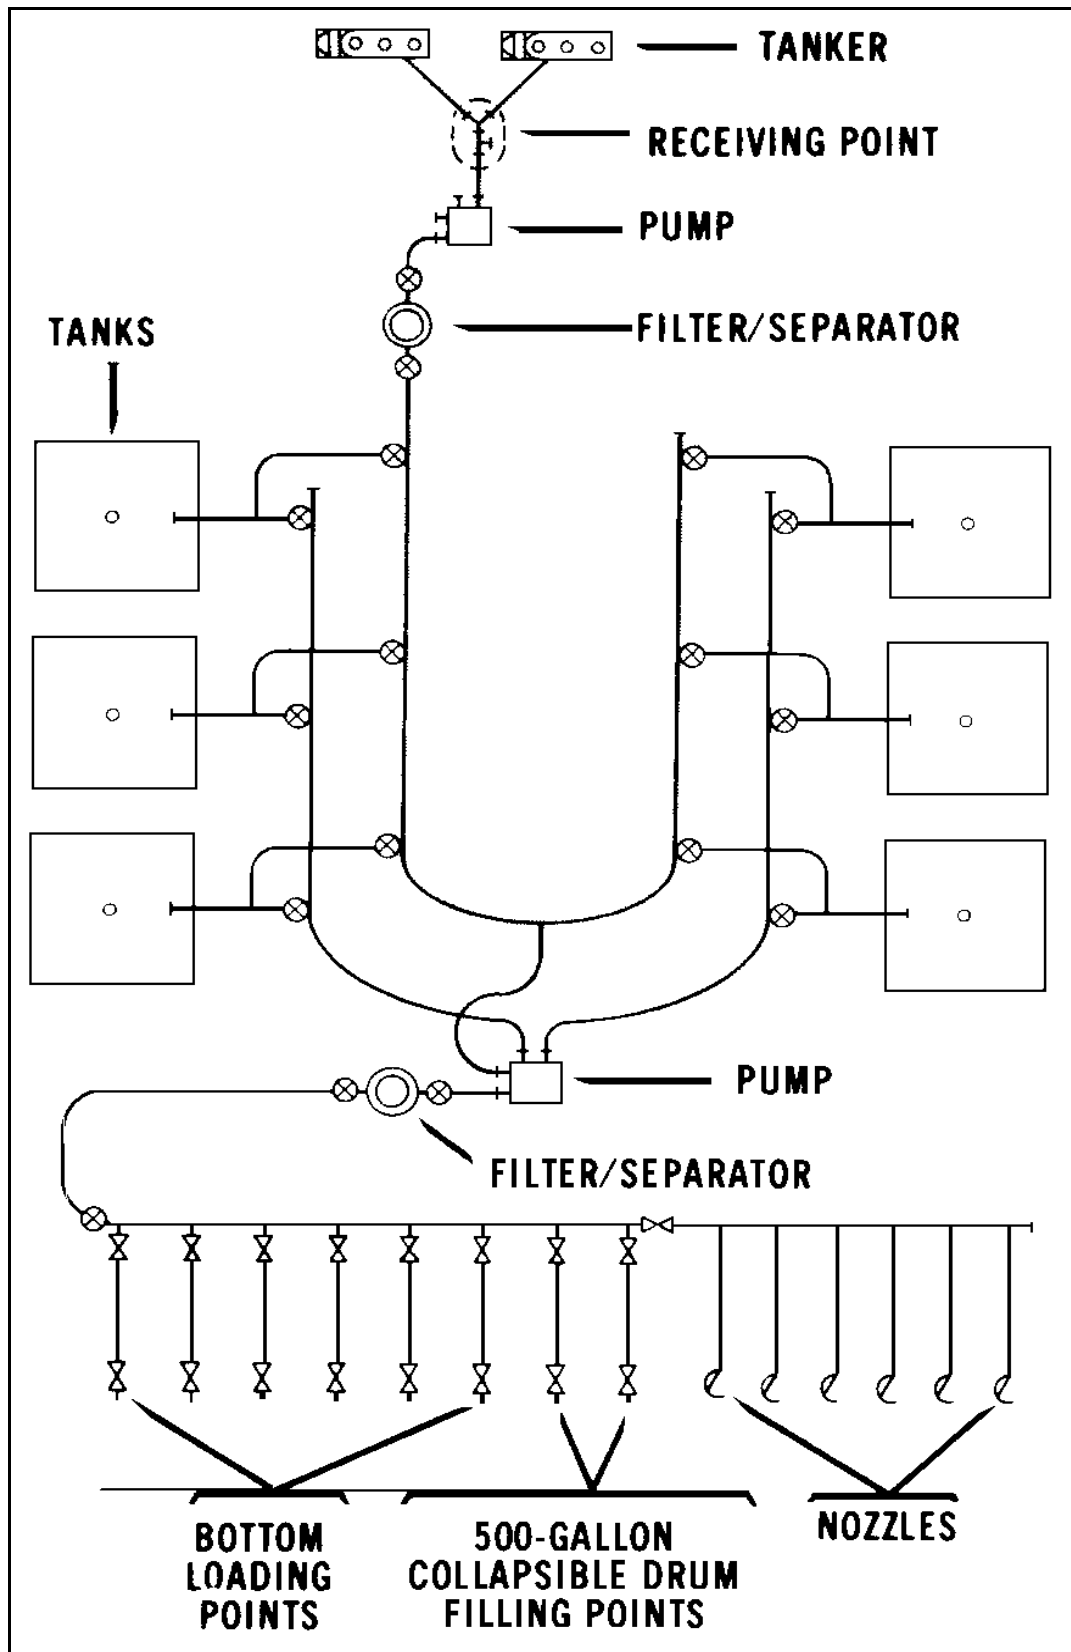

Figure 28-1. Receiving product into the FSSP from tank vehicles
- Open the discharge valve on the pumping assembly, and increase the speed on the pump to operating speed. Continue this pump speed until you empty the tank vehicle. Figure 28-1, page 28-5, shows the product moving through the FSSP.